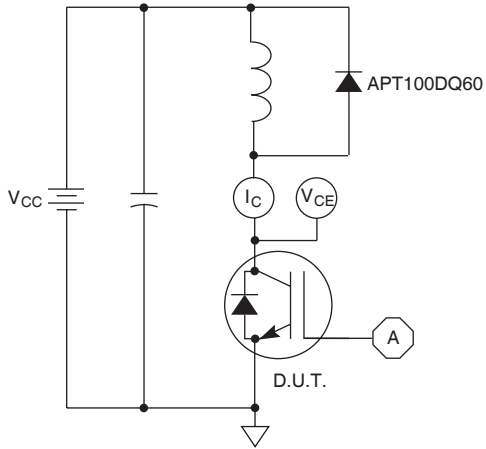

Figure 21, Inductive Switching Test Circuit
- ① Repetitive Rating: Pulse width limited by maximum junction temperature.
- ② For Combi devices, Ices includes both IGBT and FRED leakages
- ③ See MIL-STD-750 Method 3471.
- ④ Eon1 is the clamped inductive turn-on energy of the IGBT only, without the effect of a commutating diode reverse recovery current adding to the IGBT turn-on loss. Tested in inductive switching test circuit shown in figure 21, but with a Silicon Carbide diode.
- ⑤ Eon2 is the clamped inductive turn-on energy that includes a commutating diode reverse recovery current in the IGBT turn-on switching loss. (See Figures 21, 22.)
- ⑥ Eoff is the clamped inductive turn-off energy measured in accordance with JEDEC standard JESD24-1. (See Figures 21, 23.)
- ⑦ RG is external gate resistance, not including RG(int) nor gate driver impedance. (MIC4452)